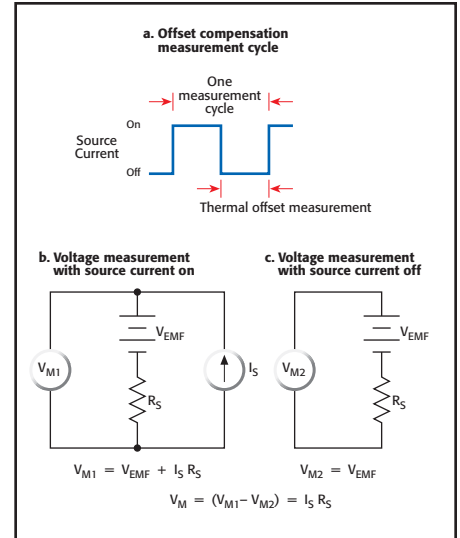

Figure 5a. Subtracting thermoelectric EMFs with Offset Compensation
- **Offset Compensation Technique (Figure 5a)** applies a source current to the resistance being measured only for part of the measurement cycle. When the source current is on, the total voltage measured by the instrument is the sum of the voltage due to the test current and any thermoelectric EMFs present in the circuit. During the second half of the measurement cycle, the source current is turned off and the only voltage measured is that due to the thermoelectric EMF. This unwanted offset voltage can now be subtracted from the voltage measurement made during the first half of the delta mode cycle. With the Offset Compensation technique, the source current is decided by the instrument. To characterize at a specific current or a variety of currents, the Current Reversal technique/Two-step Delta technique (described below) will provide more flexibility.